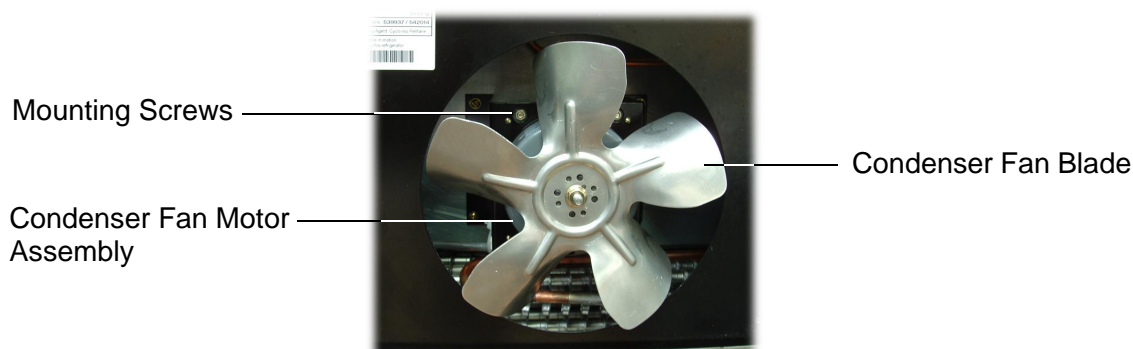

Figure 34: Condenser Fan Motor
5. Remove the condenser grille by undoing the 4 front mounting screws (see Figure 34 below).